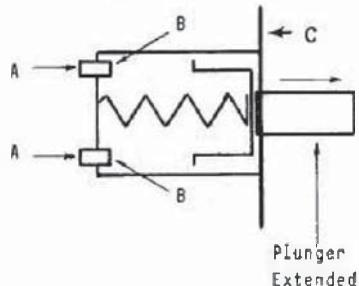

Fig. 8-1
The major difference between a plunger switch and a doorbell button is shape and internal construction. As seen in Fig. 8-1, the push-button is a plunger that protrudes about 3/4" from the face (C) of the switch. A relaxed spring is seen inside the body of the switch forcing the plunger outward, leaving the contacts open at B.